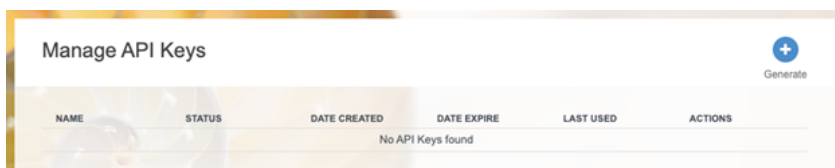

Figure 35: API Key List dialog
- In a third browser tab, navigate to <https://accounts.login.illumina.com/platform-home/#/apiKey/list> (see **Figure 35**). (If your BaseSpace account is part of an Enterprise subscription, navigate to [https://\[YourEnterpriseDomain\].login.illumina.com/platform-home/#/apiKey/list](https://[YourEnterpriseDomain].login.illumina.com/platform-home/#/apiKey/list)).